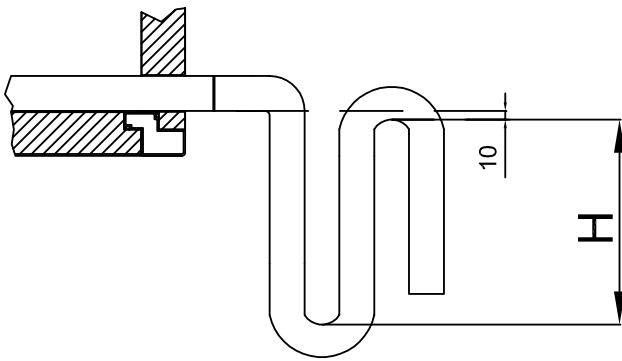
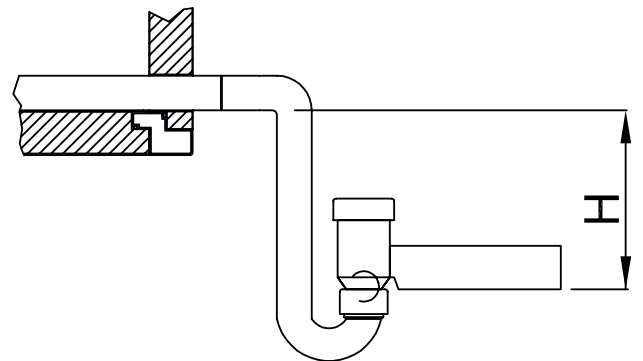

Figure 27
Figure 28
- Below the installation of positive pressure siphon (Figure 27) and the installation of negative pressure siphon (Figure 28) is shown.